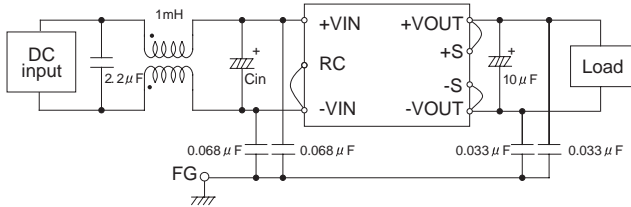

Fig.3.1 Recommended external input filter
(3) Recommended of noise-filter
■ Install an external input filter as shown in Fig.3.1 in order to reduce conducted noise.  $C_{in}$  is shown in Table 2.1.